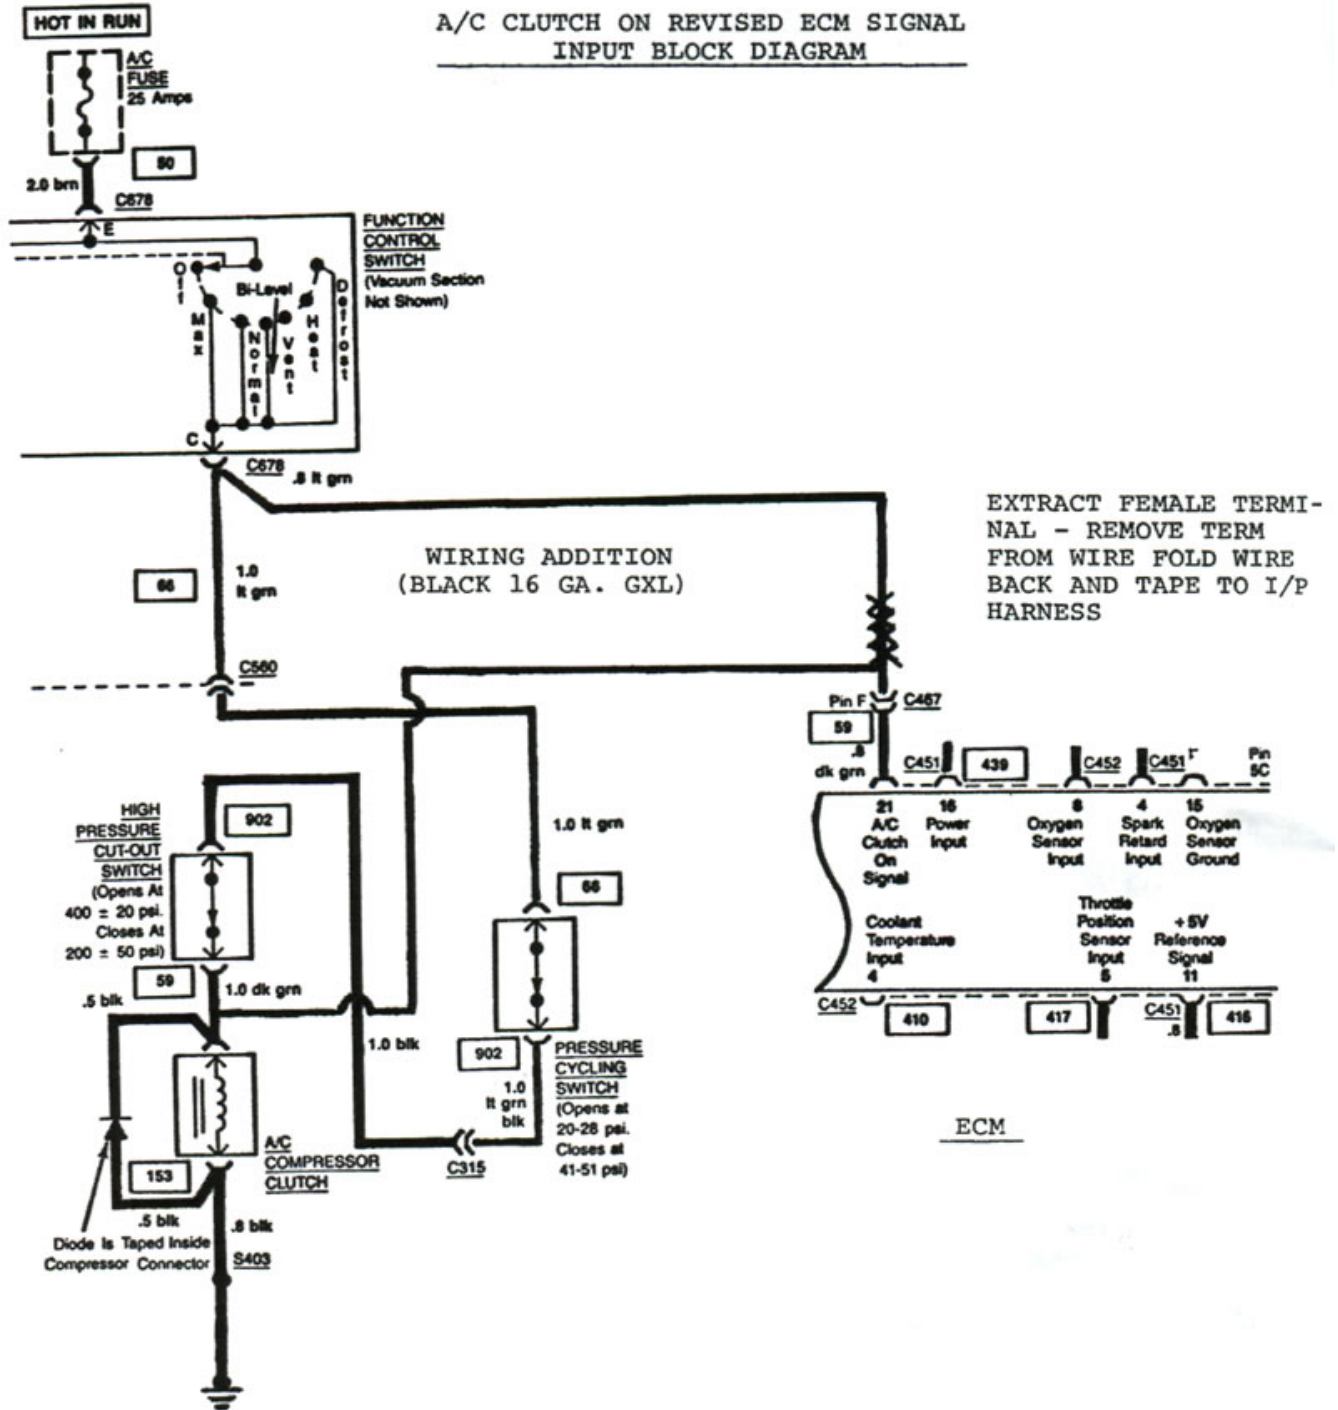

FIGURE 1
2. Extract female terminal (green wire) from gray I/P to ECM harness connector C-467, circuit 66 (see Figure 1.)